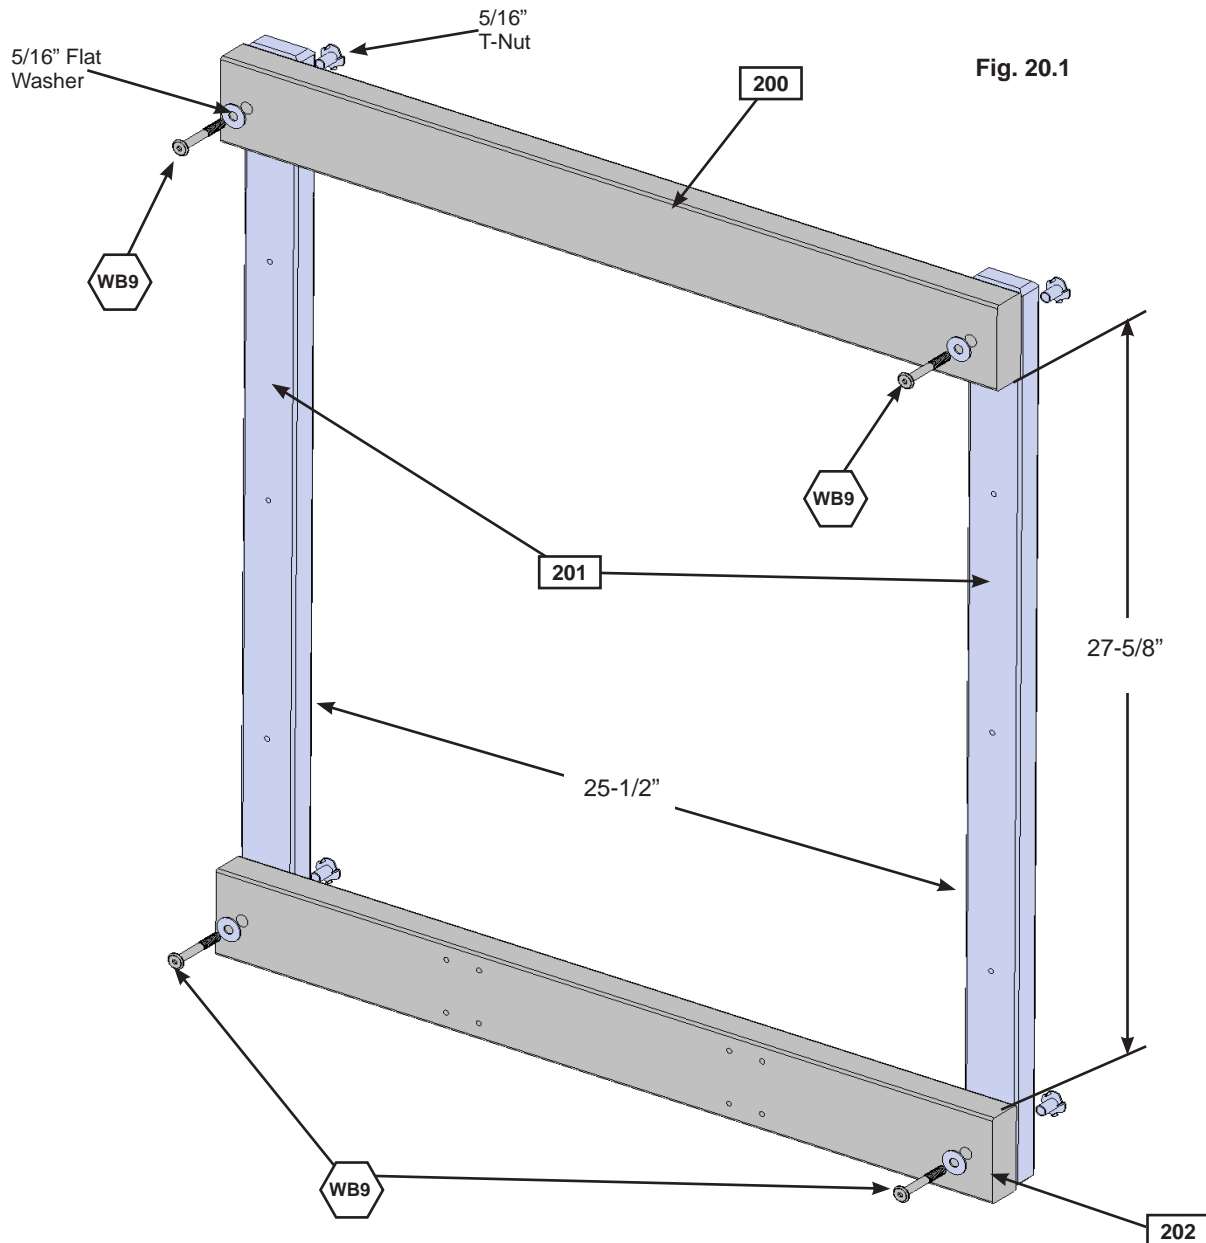

Fig. 20.1
**A:** Loosely attach (200) Crowsnest Top to 2 (201) Upright Crowsnest using 2 (WB9) 5/16 x 2-1/8" Wafer Bolts (with flat washer and t-nut). The distance between uprights must be 25-1/2". (fig. 20.1)
**B:** Loosely attach (202) Crowsnest Front to each (201) Upright Crowsnest using 2 (WB9) 5/16 x 2-1/8" Wafer Bolts (with flat washer and t-nut). The distance between (200) Crowsnest Top and (202) Crowsnest Front must be 27-5/8" (fig. 20.1)